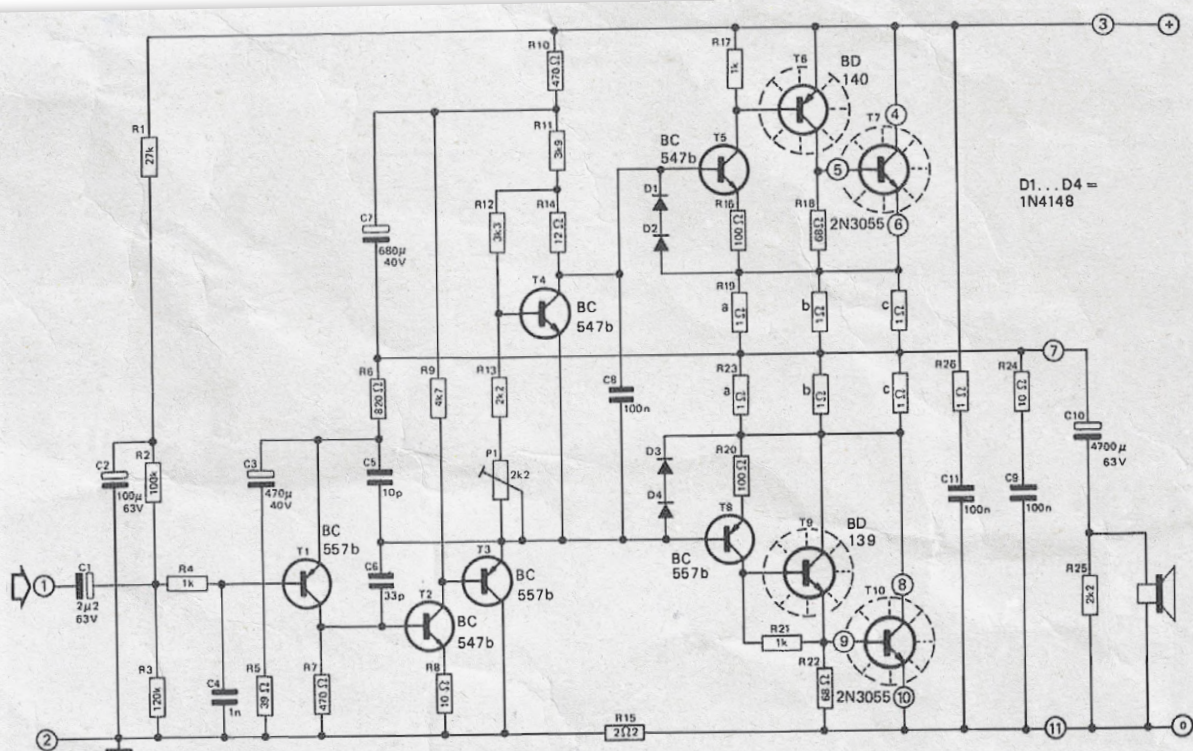

Figure 1: The original schematic for the Equin amplifier, with apologies for the average scan quality.
*For those who are interested: Fortunately, the English-language articles have been preserved; these can be downloaded in PDF format from [1][2]. We therefore can print the original schematic for the Equin amplifier here as **Figure 1**.*